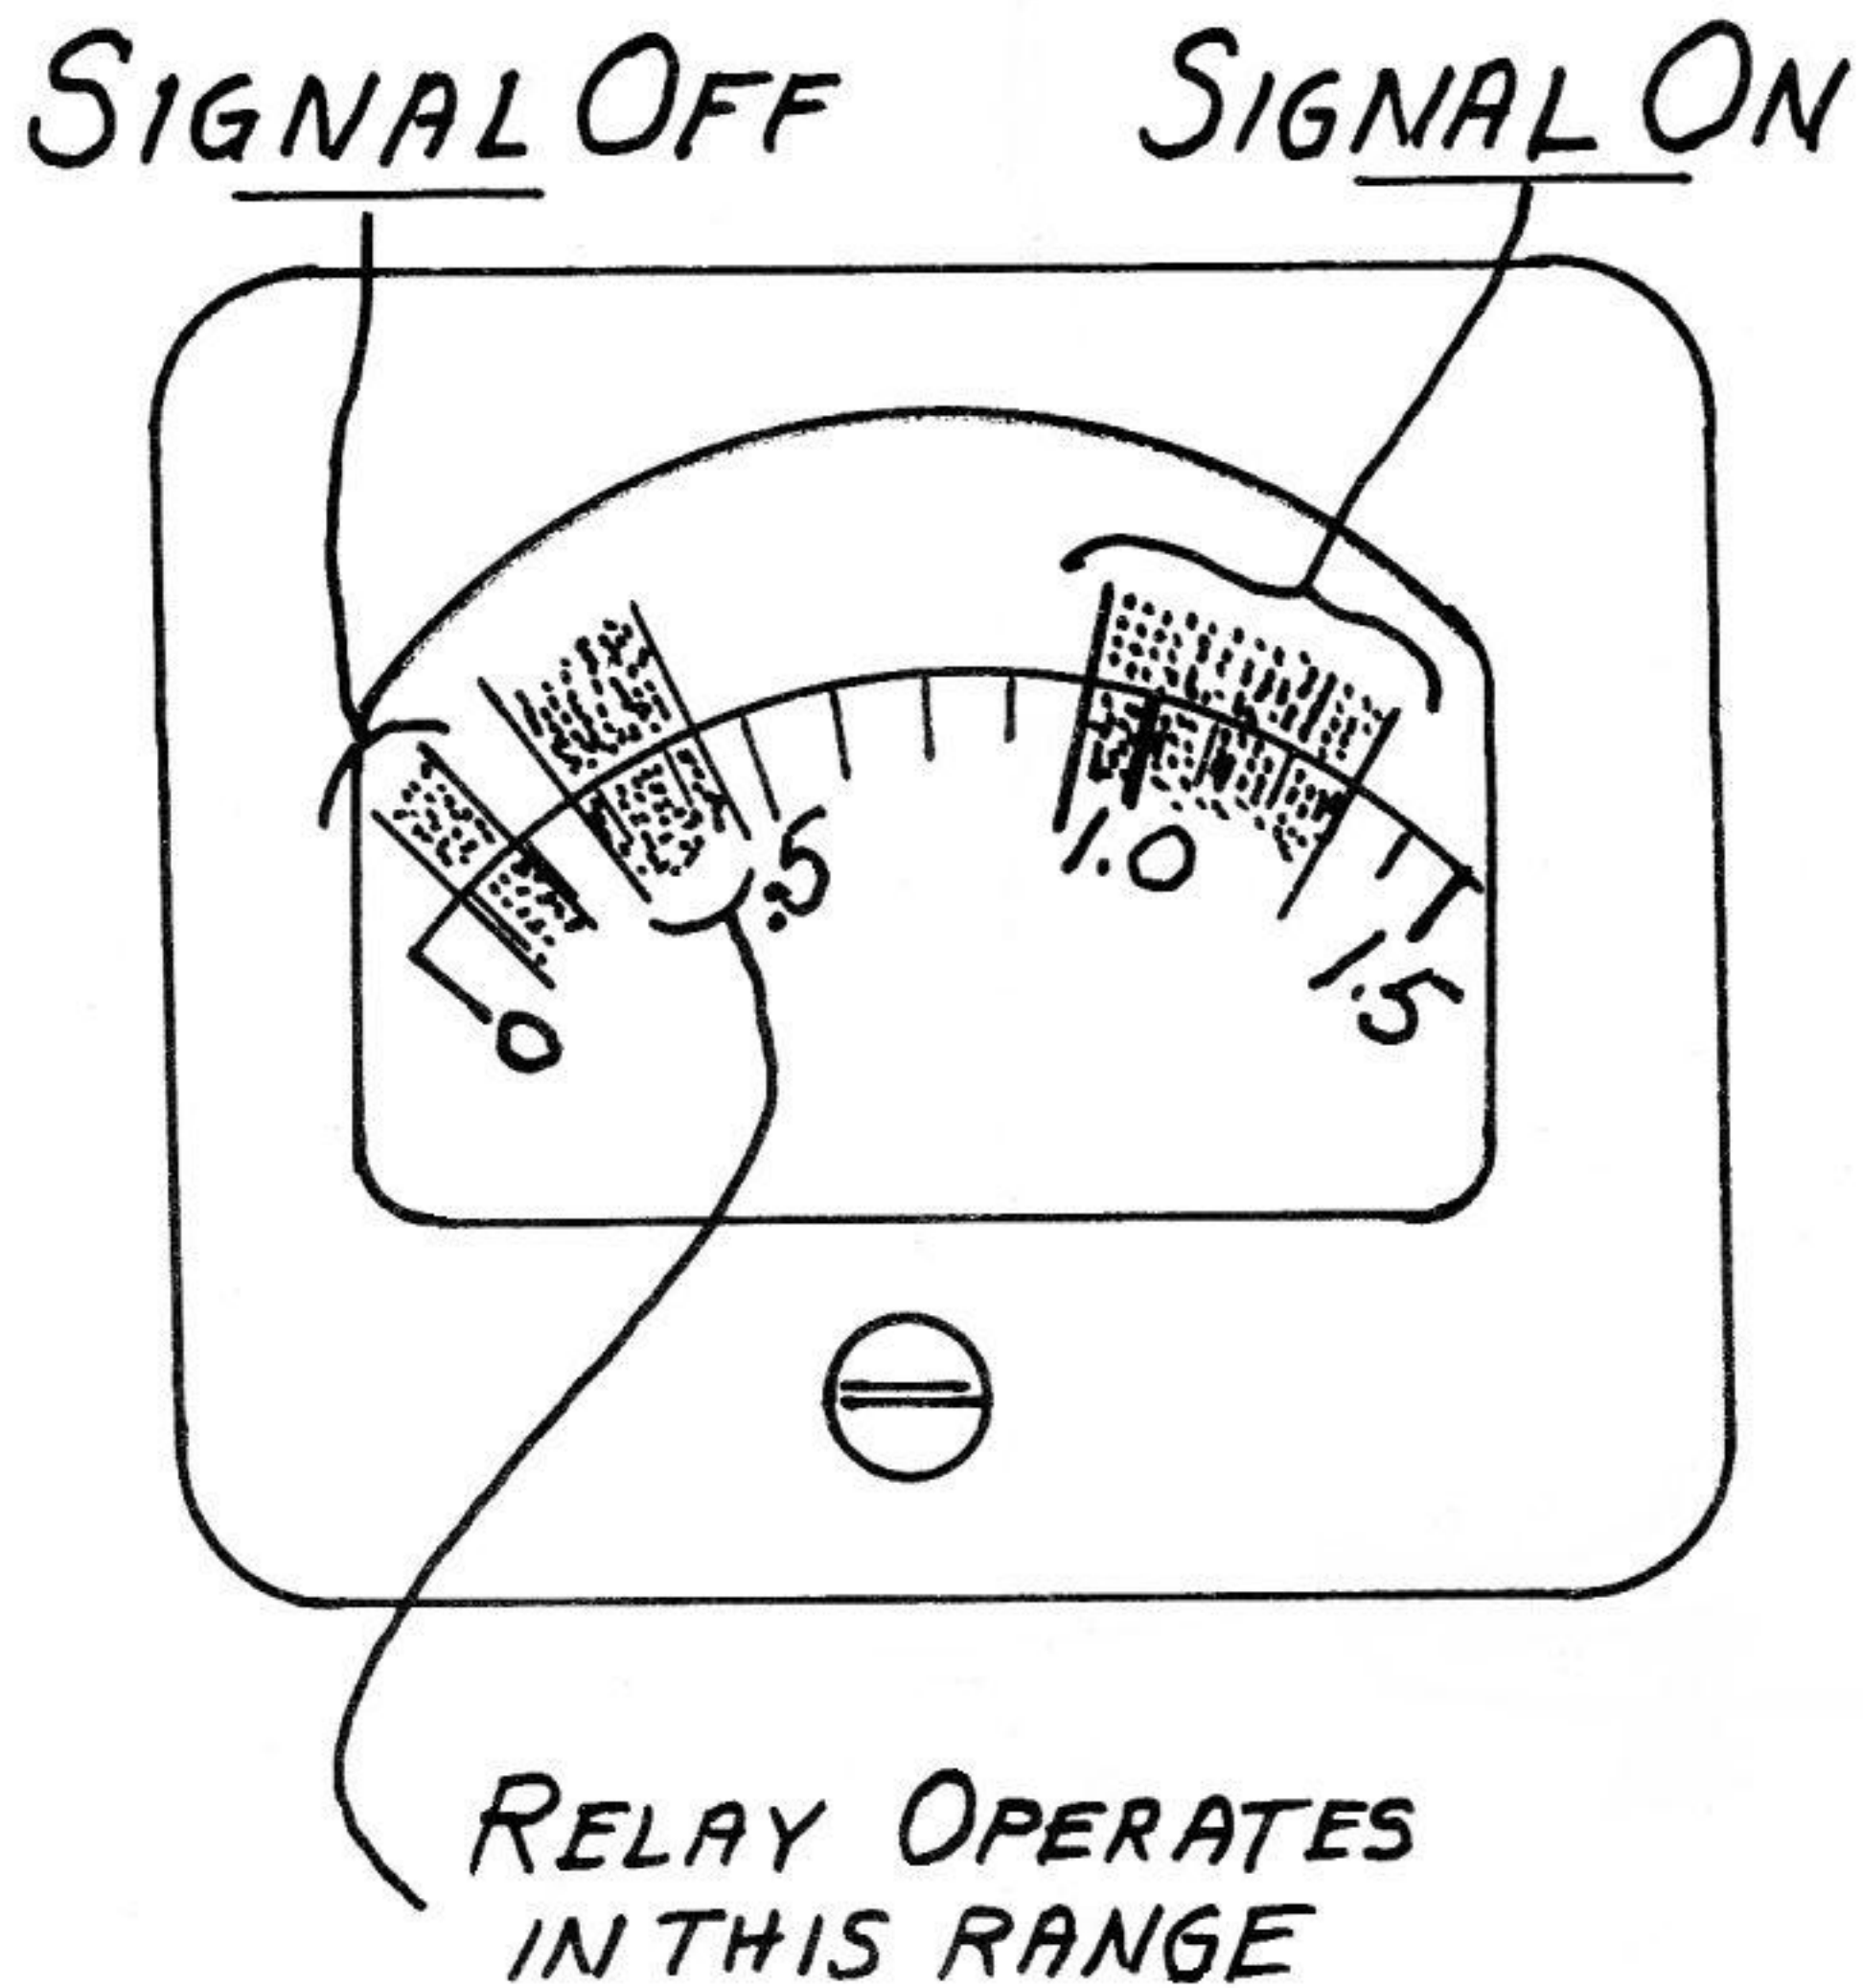

FIG 8
- 5.6 It is suggested that the "A" leads be connected to the receiver first and the filament switch turned on. A faint glow can be seen in the tube. Check the filament voltage at the receiver with a meter that will read 6 volts D.C. It should read between 4.5 and 6 volts depending on the freshness of the batteries. Now connect the plus B lead and plug in the 1.5 milliammeter. It should read between 0.1 and 0.2 milliamperes. (Figure 8.)
- 5.7 Next turn on the transmitter and REMOVE THE ANTENNA. (See paragraph regarding installing batteries in transmitter.) Allow a minute for the filament of the transmitter tube to warm up. Hold the transmitter close to the fuselage near the receiver and press the operating button. The plate current of the receiver should jump from 0.1 or 0.2 m.a. to 0.9 to 1.3 m.a., (Figure 8.), and the relay should close.
- 6.2 The only adjustment allowed is on the relay, but this should not be attempted by anyone not skilled in either the electrical or radio arts. The relay is set at the factory for best operation and closes at approximately 0.4 m. a. and opens at approximately 0.3 m. a. (Figure 8.)